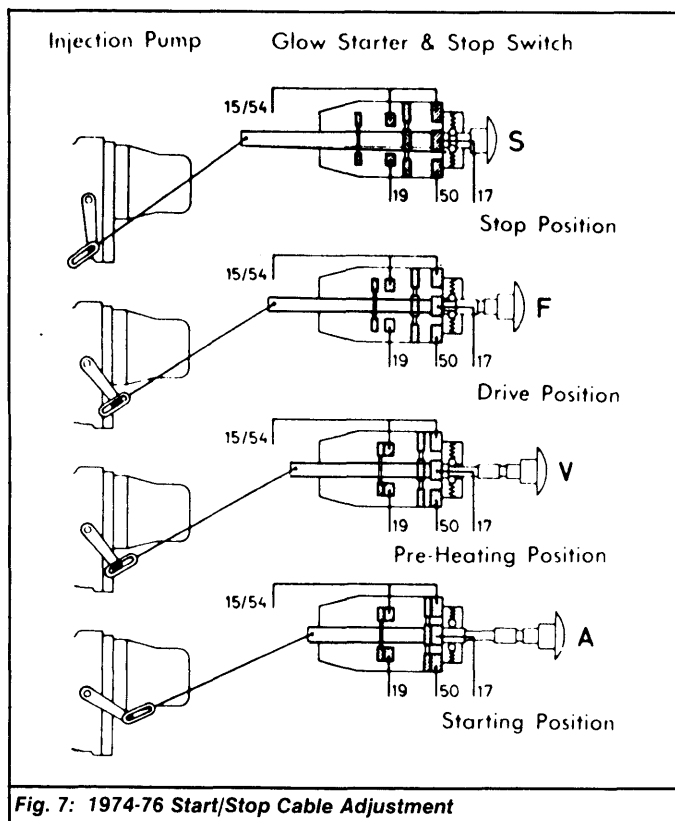

Fig. 7: 1974-76 Start/Stop Cable Adjustment
2) Pull button outward through slight resistance to starting position. See Fig. 7. Check that pin of adjusting lever is in contact with far end of slotted cable end.